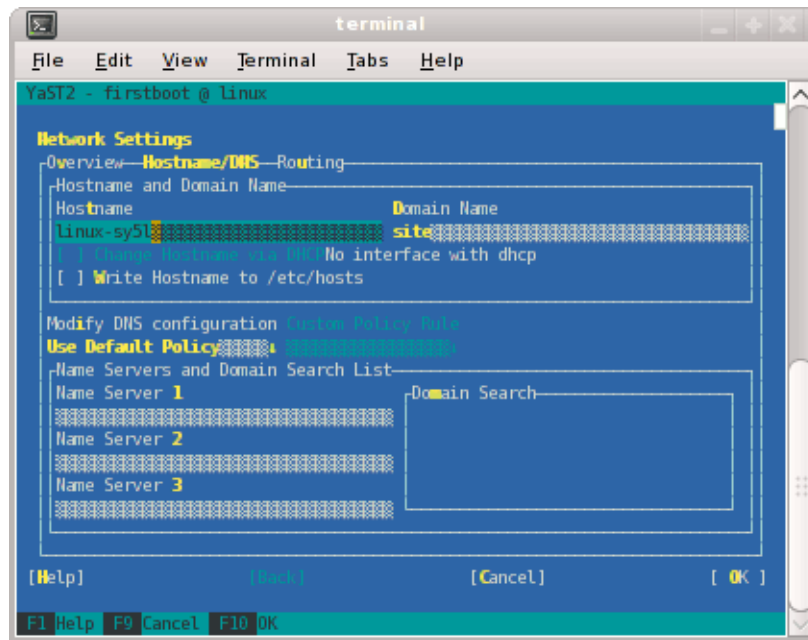

Figure 1-11 Network Settings Screen
9. At this point, you are back at the **Network Settings** screen as shown in Figure 1-11 on page 18. At this time, select **Hostname/DNS**. In this screen, you should enter your house/public network hostname and fully qualified domain names. In addition, any name servers for your house/public network should be supplied. Please select (ensure an x is in the box) for **Write hostname to /etc/hosts**. Do not select **OK** yet.